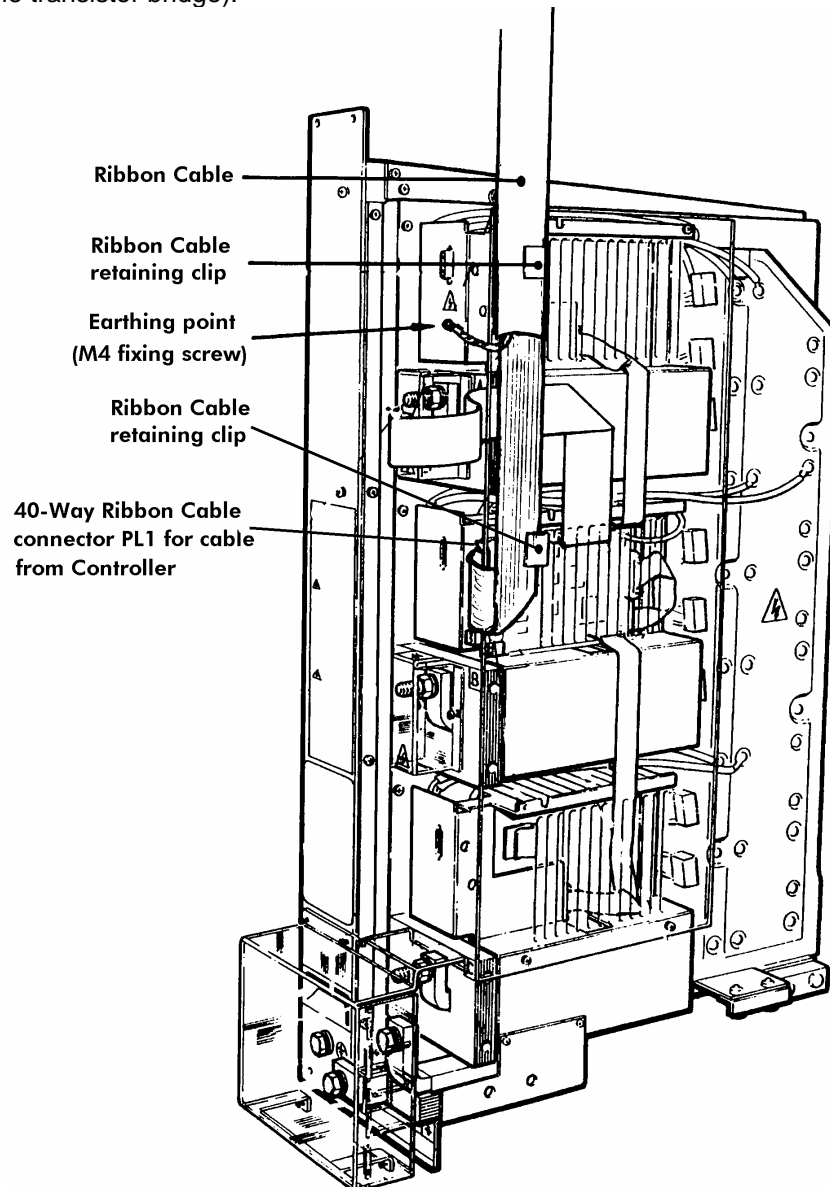

Figure 3 : Routing and fitting of Screened Ribbon Cable to an Air Cooled DELTA Module
- 2.1 Refer to Figure 3 and fit the screened ribbon cable into PL1 on the DELTA Transistor Bridge Interface Board. Ensure that this end of the screened ribbon cable has approximately 280 mm of ribbon cable un-screened. Route the ribbon around onto the outside face of the insulating cover, and up towards the top of the cubicle using the retaining clips to hold the cable.
- 2.2 Locate the M4 ring crimp on the flying lead to the earthing point, at the position indicated in Figure 3. Secure using the M4 × 6 "Taptite" screw supplied loose with the screened ribbon cables.